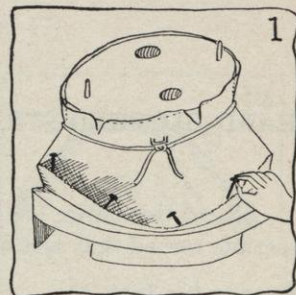

FIG. 1.
- b. Read and follow Job 4 Sections 1 and 2 *a* through *e* (pages 17 and 18), but do not put any staples in the edge of the straw. After tying at headsize, stretch the straw only as far as the edge of the block, and pin it to the edge, keeping the woven edge exactly even with the edge of the block (see Figure 1).